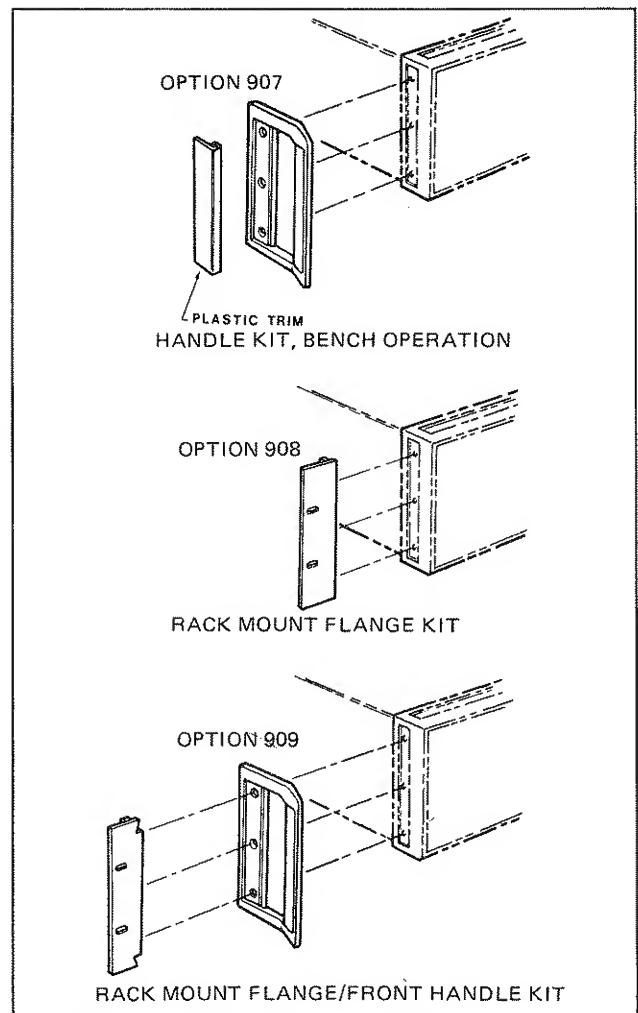

Figure 2-3. Rack Mount and Handle Kits.
2-27. The instrument has plastic feet attached to the bottom panel. The front feet contain foldaway tilt stands for convenience in bench operation. The tilt stand raises the front of the instrument for easier viewing of the control panel. The plastic feet are shaped to make full-width modular instruments self-align when they are stacked. A front handle kit, -hp- Part No. 5060-9899 (Option 907), can be installed for ease of handling the instrument on the bench (see Figure 2-3). The kit is shipped with the instrument if Option 907 is also ordered. Otherwise, the front handle kit is available separately by its -hp- part number.
*The Rack Mount Flange Kit of item a will not provide the space requirement for rack mounting when used with the bench handle assembly (-hp- Part No. 5060-9899, Option 907). To rack mount with handles, the combination kit of item b (Option 909) must be used (see Figure 2-3). If either Option 908 or 909 is ordered, the corresponding kit is shipped with the instrument. Otherwise, both kits are available separately by their -hp- part numbers.*